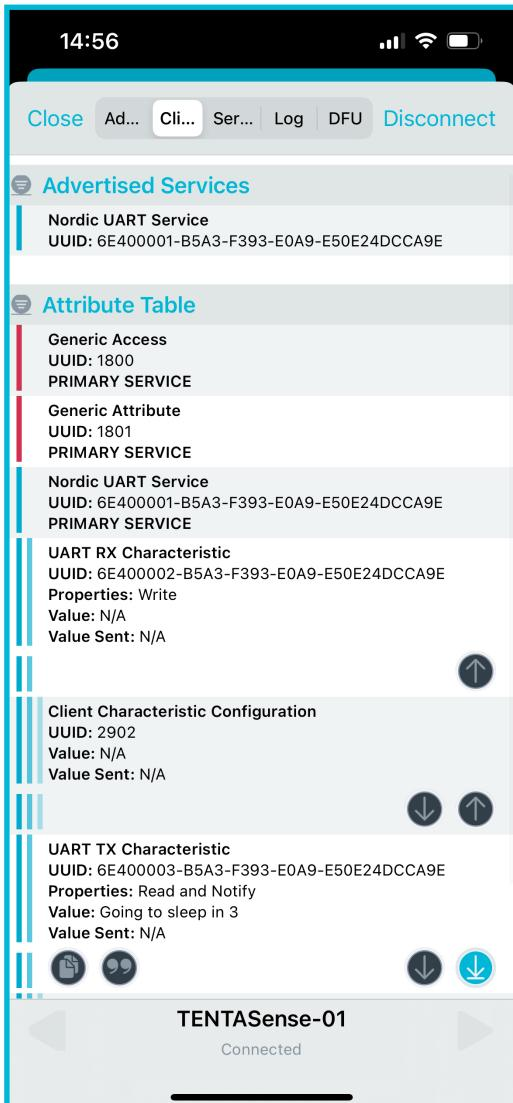

Figure 5: nRF Connect client screen, with UART TX Characteristic logging button shown in blue.
- a. Once connected, you may need to enable logging of messages sent by the TENTASense module in nRF Connect. Select the Client screen and tap/click the down arrow under UART TX Characteristic (Figure 5).